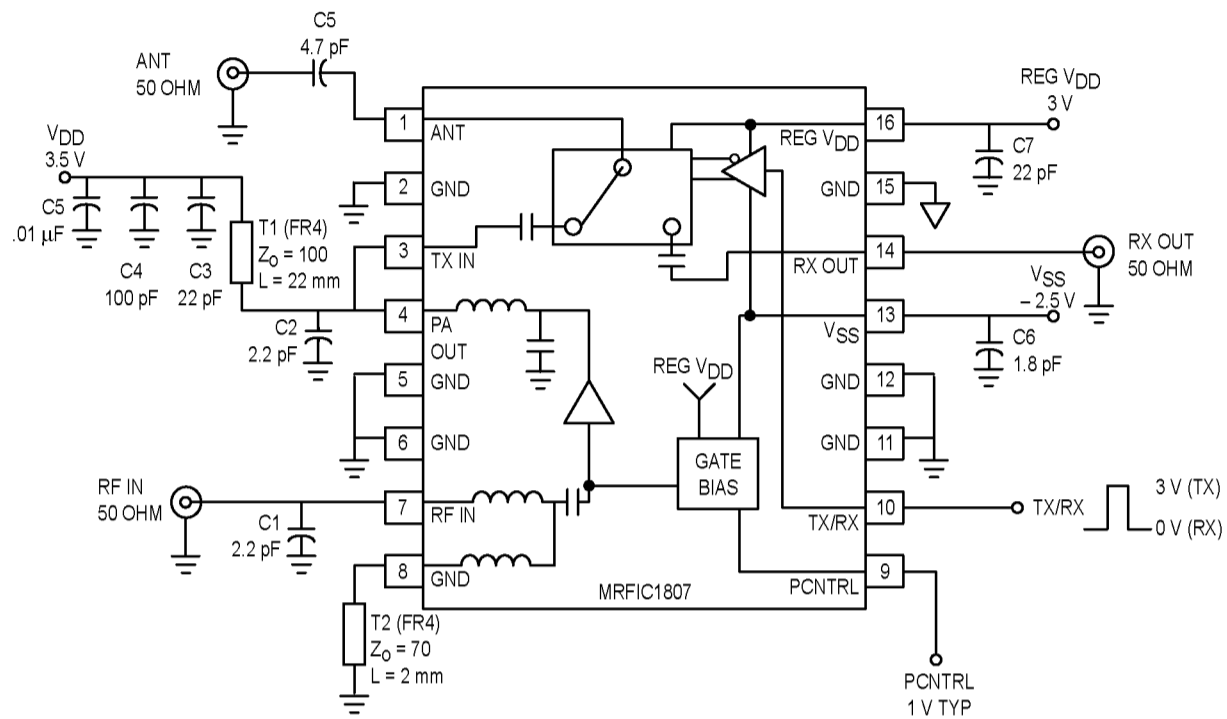

Figure 2. 1.9 GHz Applications Circuit Configuration
1. Measured with circuit configuration shown in Figure 2.
Figure 2 shows the component values for a DECT implementation of the MRFIC1807. For use in equipment designed for DECT, the power amplifier is operated close to saturation to improve device efficiency. Maximum power output at the antenna connector is 24 dBm during a burst. The constant envelope characteristics of the GMSK modulation allow non-linear amplification without spectral regrowth. The transmit signal must be shaped or "ramped" to meet system transmit turn on time requirements of 10  $\mu$ sec minimum while not splatting into adjacent channels. A turn on time on greater than